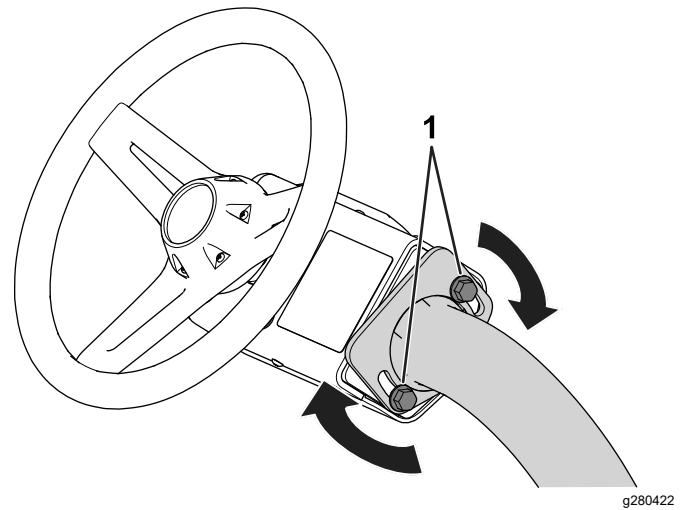

Figure 34
3. Tighten the bolts (Figure 34) to secure the steering-wheel assembly in your adjusted position.
1. Loosen the bolts (Figure 34) that secure the steering-wheel assembly to the steering arm.